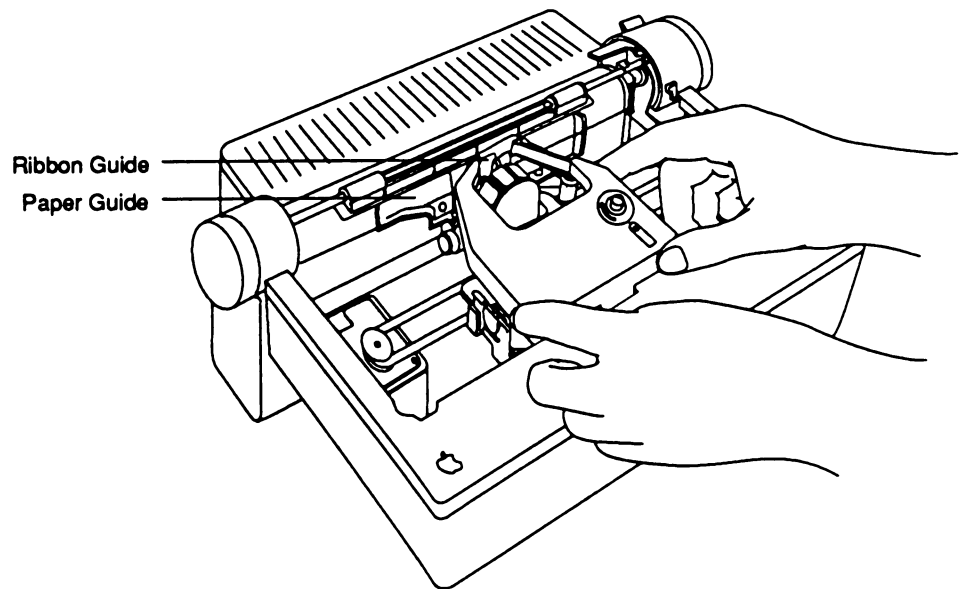

Figure 5. Positioning the ribbon
3. Lower the ribbon cartridge onto the deck. Make sure that the ribbon slips between the plastic **ribbon guide** and the clear **paper guide**, as shown in Figure 5.